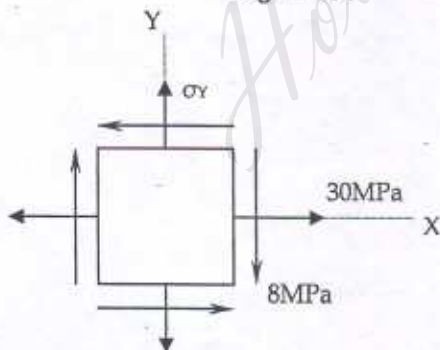
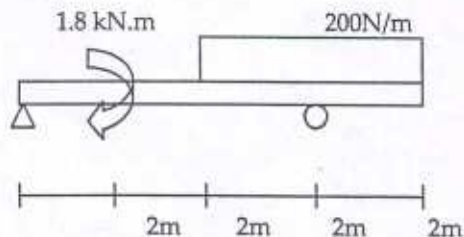
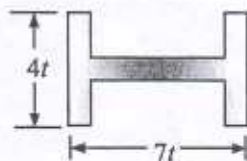

Figure 4
Figure 5
Figure 6
- Q.5a** The Figure 4 shows the state of stress at a point. Knowing that the maximum in-plane shear stress at this point is 10 MPa, determine the value of σ_y . Subsequently also find the values of principal stresses and the corresponding principal planes and show them on properly oriented elements.
- Q.6** A timber beam, 150 mm wide and 200 mm deep is reinforced at top and bottom with 6 mm thick aluminium plates of width b . The maximum bending moment in the beam is 14 kN-m. If the working stress in bending are 10 MPa for wood and 80 MPa for aluminium, determine the smallest allowable value of b . Use $E_{AL}/E_{WD} = 5$. (20)
- Q.7(a)** Determine the equation of the elastic curve for the overhanging beam as shown in Figure 5; and calculate the value of deflection midway between the supports. The cross-section of the beam is shown in Figure 6. Take $E = 210$ GPa.
- Q.7(b)** A column pinned at both ends is made up from a section (thicknesses of web and flange are 20 mm) shown in Figure 6. The yield strength and modulus of elasticity are 248 MPa and 200 GPa respectively. Determine the allowable axial compressive load if the length of the column is 7 m. (10, 10)